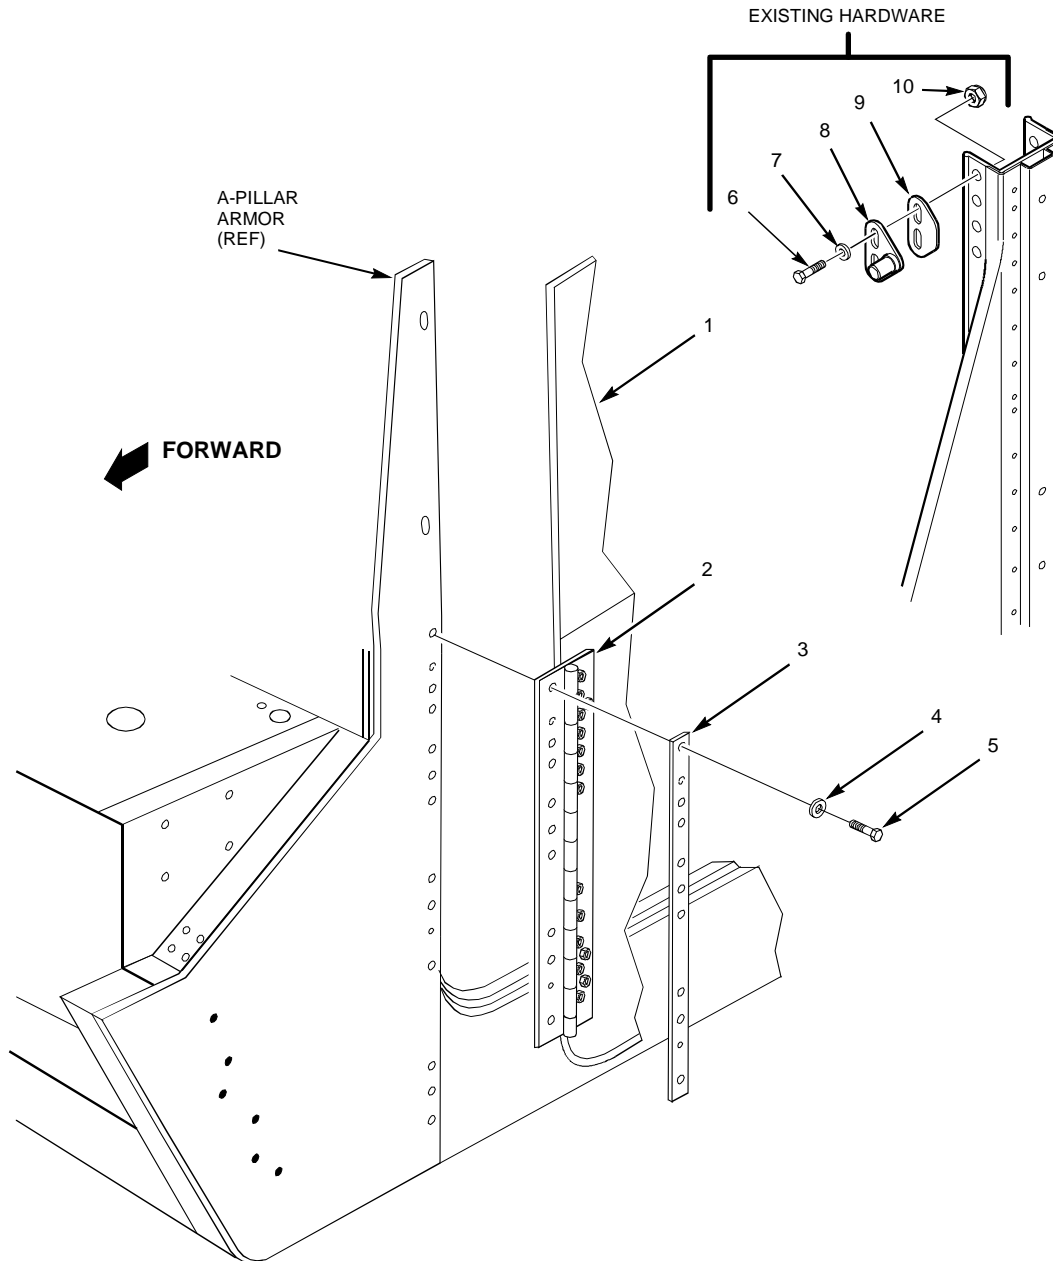

Figure 2-5. Front Door Removal (2 and 4 Door)
3. Remove front door (see figure 2-5).
- a. While supporting door assembly (1), remove nine capscrews (5), washers (4), and cover strip (3).
- b. Remove door assembly (1) with attaching hinge (2).